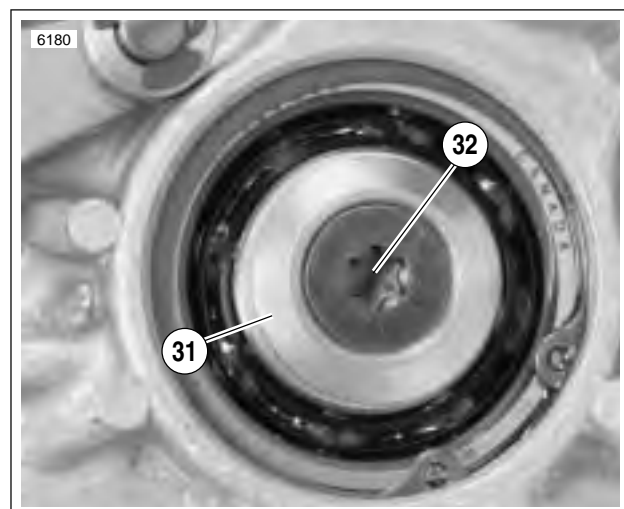

Figure 6-48.
19. See Figure 6-48. At outside of access door, position retention collar (31) next to end of countershaft with beveled side facing outward. Apply a few drops of LOCTITE THREADLOCKER 243 (blue) to the threads of TORX screw (32). Insert TORX screw (32) through retention collar and thread into end of shaft. Place transmission in gear and tighten TORX screw to 13-17 ft-lbs (18-23 Nm).